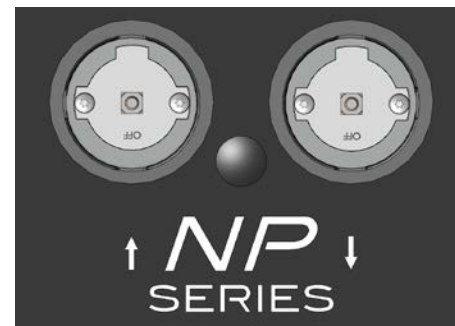

Figure 9: Valve positions for flushing with flush cart. OFF is in 6 o'clock position.
1. Rotate supply and return valves to bypass the tank. OFF should be in the 6-o'clock position on both valve #1 and #2 (Figure 9).
**NOTE:** Fluid should not enter the NP Series tank during flushing. If it does, immediately stop the flush cart pump and check to be sure the valves are in the correct orientation as shown in Figure 9.